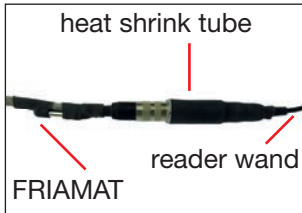

Figure 3
- Remove carefully the heat shrink tube (Figure 3) from the reader wand adapter (grey) and both connectors (reader wand cable and FRIAMAT data cable).